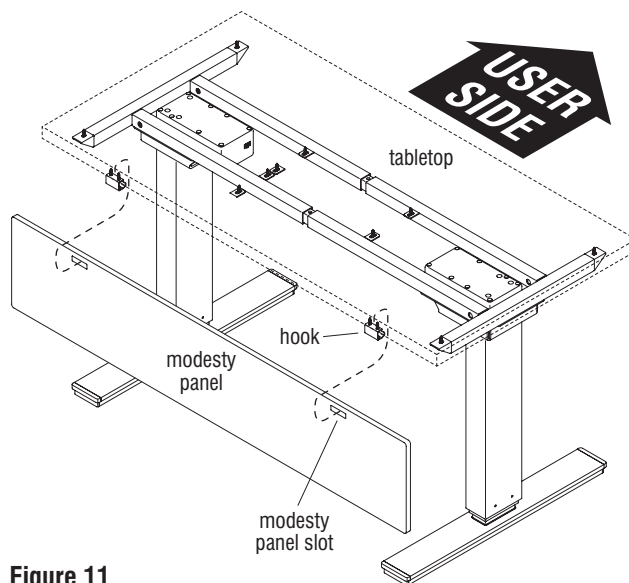

Figure 11
3. Position the modesty panel underneath the back, non-user side of the tabletop, near the hooks. Using the slots on the panel, hang the panel onto each hook (Figure 11, Details I & J).